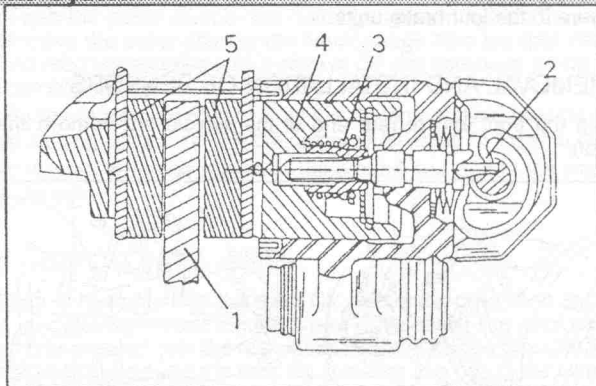

Fig. 9.10. — Sectional view of a front brake caliper with details of the hand-brake mechanism.
Fig. 9.10 shows a sectional view of a front brake caliper and should be referred to. The handbrake acts mechanically through the plunger (2) onto the piston (4) of the front calipers. An automatic adjusting mechanism (3) ensures that the brake pads are always near the brake discs and is operated with each application of the brake pedal. There is no need to mention the operating pedal and the locking and release knob.